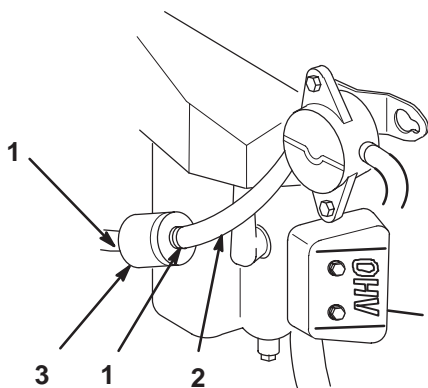

Figure 40
2. Close fuel shut-off valve at fuel tank (Fig. 40).
3. Squeeze the ends of the hose clamps together and slide them away from the filter (Fig. 40).
6. Open fuel shut-off valve at fuel tank (Fig. 40).
7. Check for fuel leaks and repair if needed (Fig. 40).